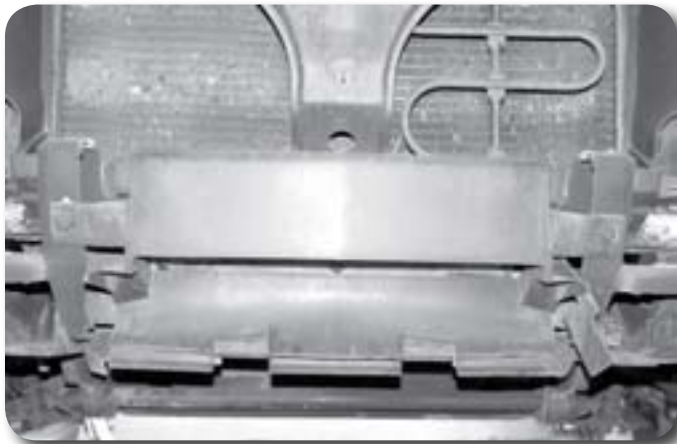

Figure 6
8. Remove the lower and upper plastic air scoops **Figure 6** from the core support by carefully releasing the plastic push in fasteners. Save fasteners.